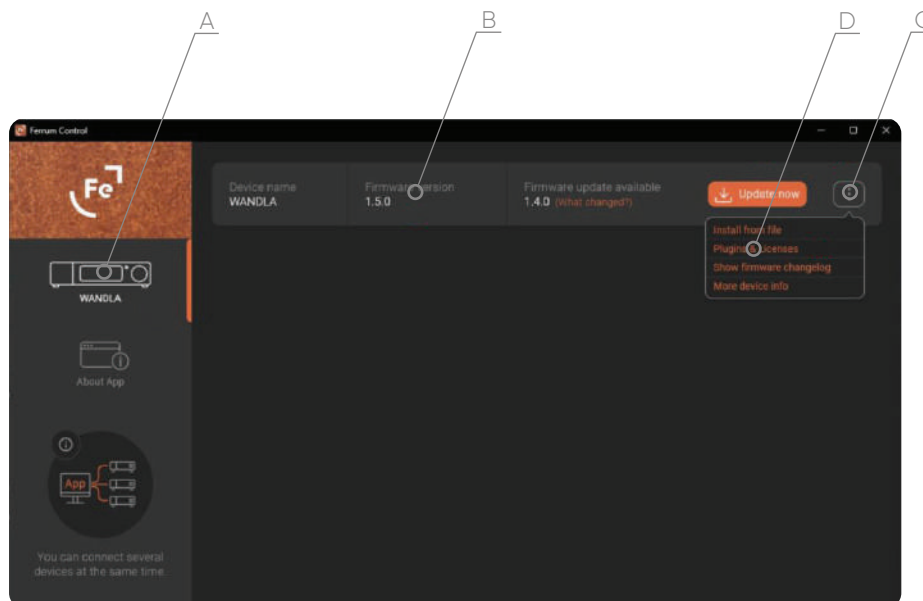

Figure 12
3. Open Ferrum Control (Fig. 12).